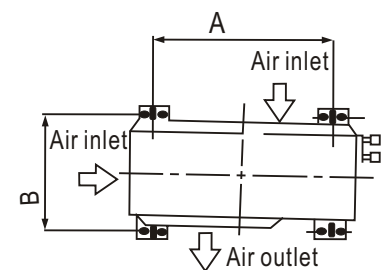

Fig.3
- Anchor the outdoor unit with a 10mm (3/8 inch) diameter bolt and nut tightly on a concrete or rigid surface. Fig.3.